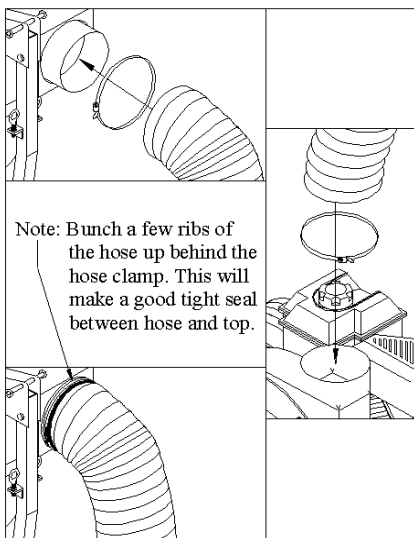

Fig. 7
6. Slip exhaust hose over turbine housing (5) neck and tighten clamp. Slip hose clamp (22) over exhaust hose (23) and over intake nozzle (17), and tighten clamp. On the intake side bunch the hose up against the molded top for a good airtight fit. Fig. 7